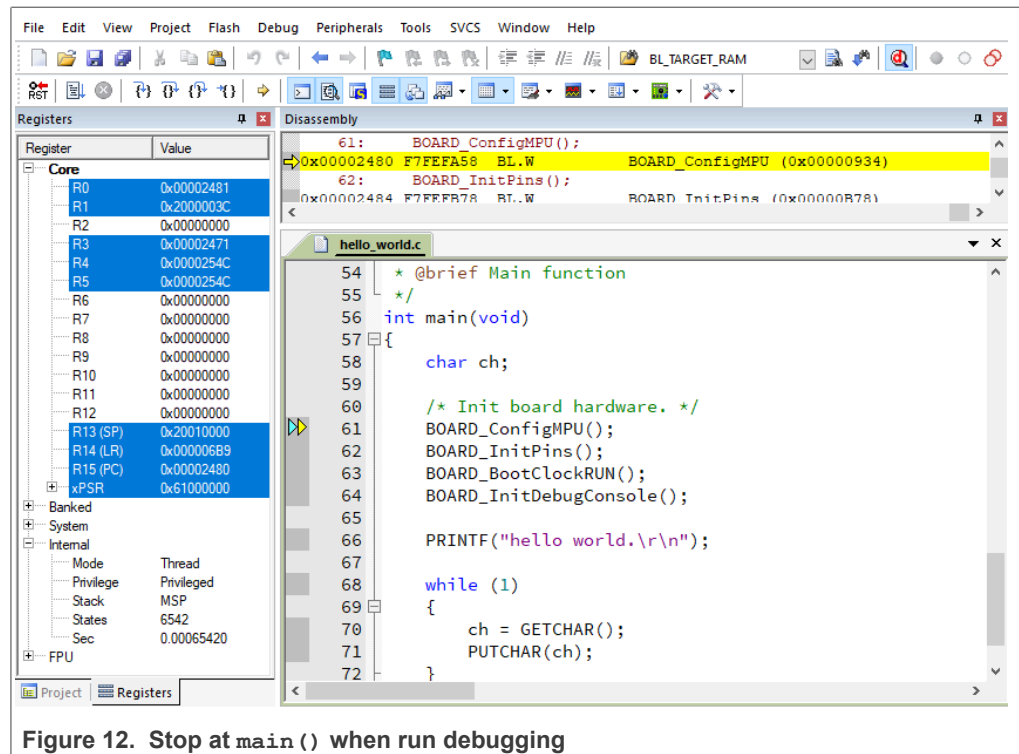

Figure 12. Stop at main() when run debugging
4. To debug the application, click **load** (or press the F8 key). Then, click the **Start/Stop Debug Session** button, highlighted in red in Figure 12. If using **J-Link** as the debugger, click **Project option > Debug > Settings > Debug > Port**, and select **SW**.